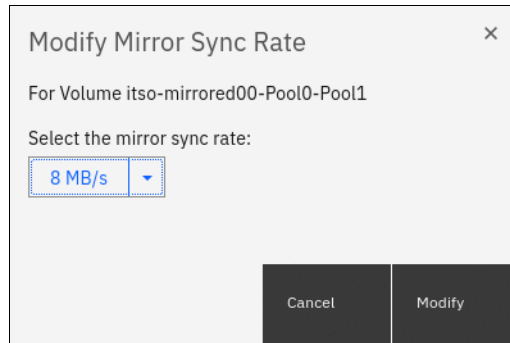

Figure 6-51 Setting the volume mirror sync rate
2. Select the mirror sync rate from the list. Available values are 0 KBps - 64 MBps. Click **Modify** to set the mirror sync rate for the volume, as shown in Figure 6-51.